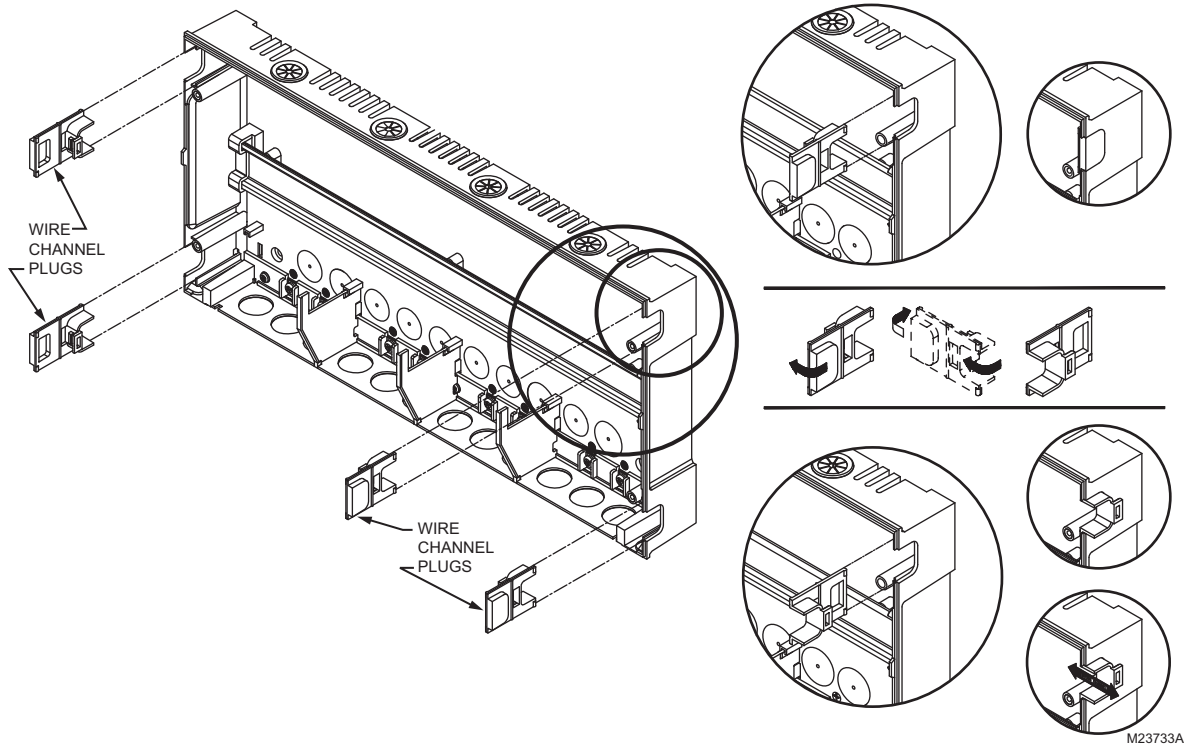

Fig. 3. Orientation of wire channel plugs for creating pass-through wire channel and for joining Control Panel to Expansion Zoning Panels.
1. Remove wire channel plugs from the AQ250 Control Panel and any Expansion Zoning Panels (see Fig. 3 on page 5).
3. Reverse wire channel plugs and re-insert them into their slot, to form a wiring channel between the Control Panel and the Expansion Zoning Panel (see Fig. 3 on page 5) and to connect the two panels together.